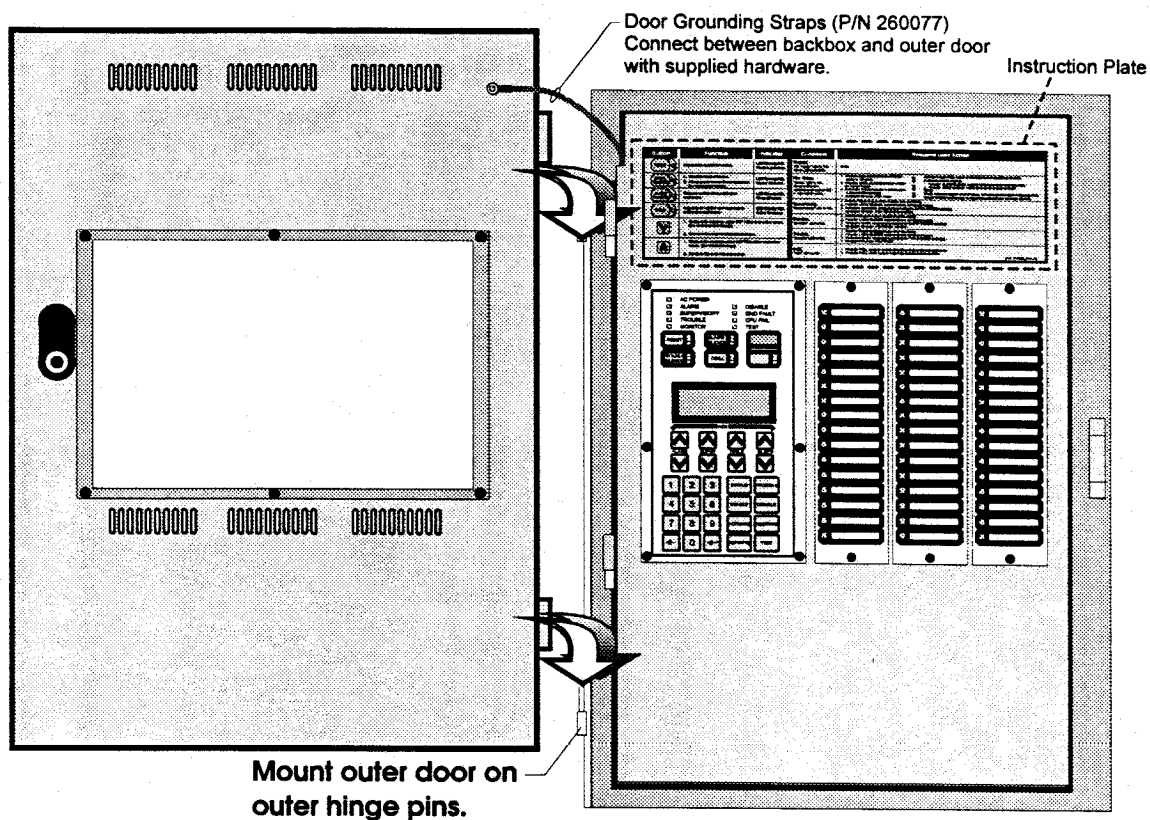

Figure 3.4 - Outer Door Installation
7. Install the outer door on the enclosure per Figure 3.4. Connect the grounding strap (P/N 260077) from the backbox to the grounding stud on the outer door using the supplied hardware. Install the instruction plate on the top of the inner door using the black fasteners.